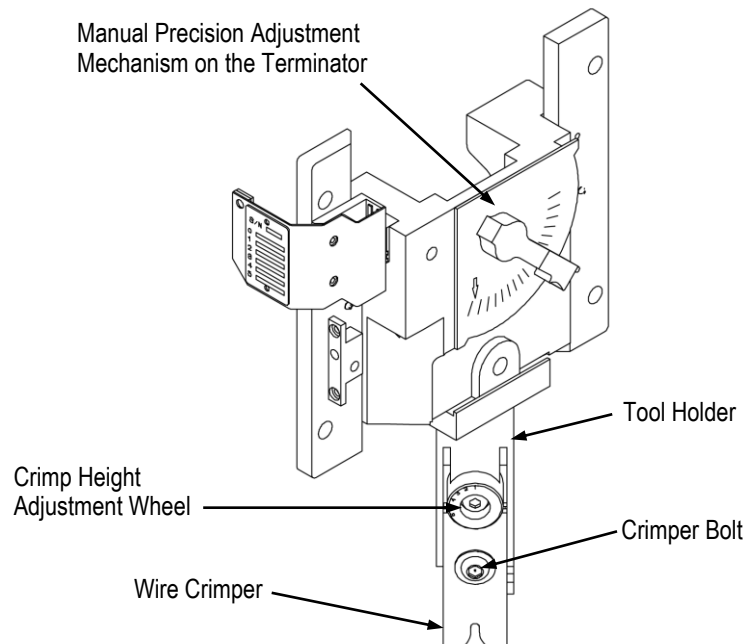

Figure 7
4. Loosen the crimper bolt (see Figure 7).
5. Rotate the crimp height adjustment wheel (Figure 7) one position. If a smaller crimp height is required, decrease the number on the adjustment wheel. If a bigger crimp height is desired, increase the number on the adjustment wheel.